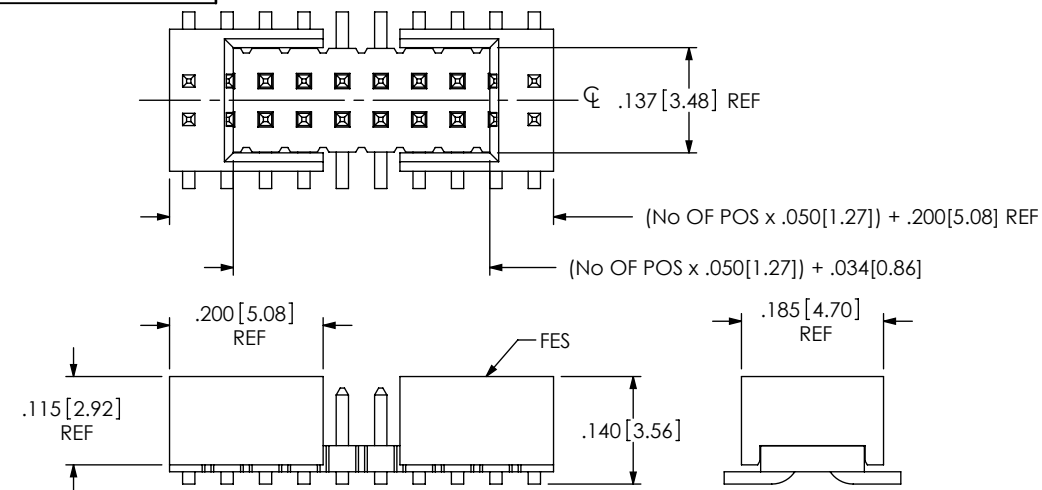

FIG 3
- S: END SHROUDS (SEE FIG 3, SHT 2 & FIG 6 SHT 3) (LEAD STYLE -02 & -03 ONLY) (05 POS MINIMUM, 46 POS MAXIMUM) (NOT AVAILABLE WITH -A OPTION; ORDER -SA FOR ALIGNMENT PIN WITH SHROUD)